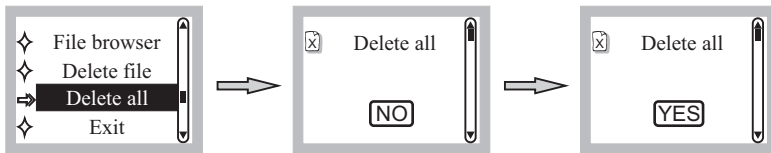

Fig. 27
- (3) Delete All: Press **▶||** to enter the “Delete all” screen. Press **◀◀** or **▶▶** to select “NO” or “YES”. Press **▶||** to confirm, Fig. 27.